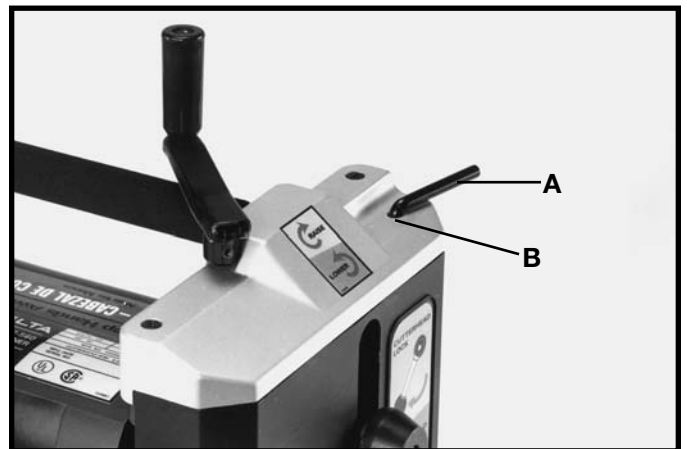

Fig. 21
2. Figure 21 illustrates the knife transfer tool (A) stored underneath the outfeed table extension.
The wrench (A) Fig. 21, can be stored in hole (B) located on the right rear side of the machine as shown.